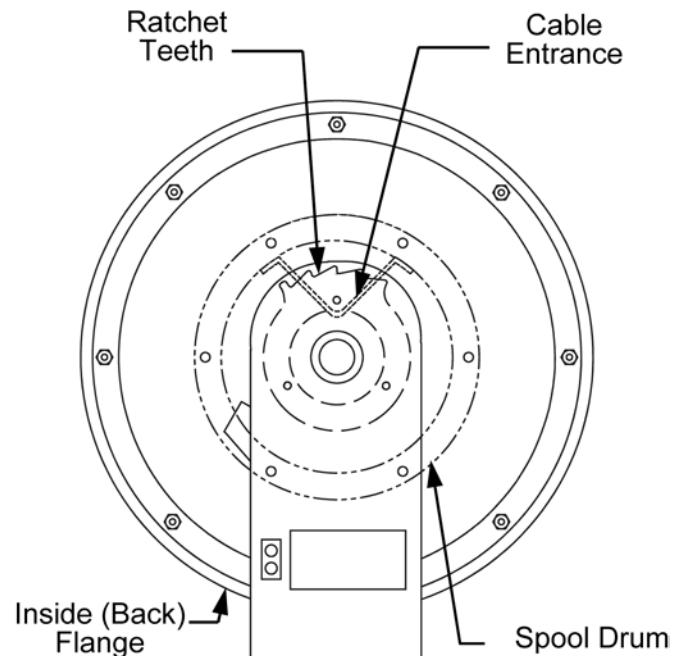

Figure 4
- E. Verify drum and ratchet teeth orientation per Figure 4, page 9.